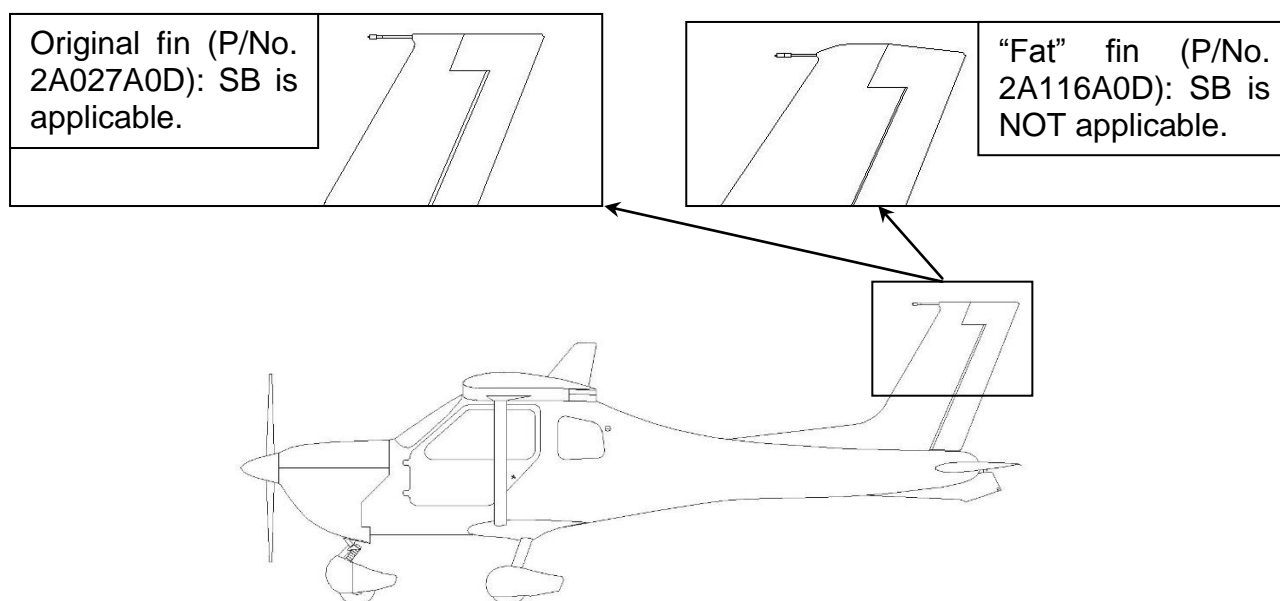

Figure 1 – Fin Identification
(Figure 1, left)
- J170 configurations to which this bulletin is NOT applicable are most easily identified by their use of a “fat” tail fin, P/No. 2A116A0D. The most easily identified feature is the shape of the tip of the fin as shown in Figure 1.